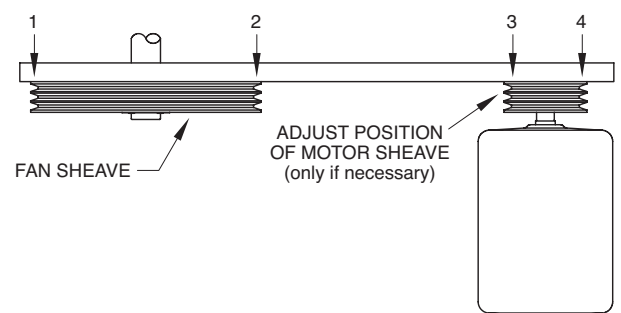

Figure 18 - Sheave Alignment Check
9. As a final check, lay a straight edge from sheave to sheave as shown below in Figure 18. There should be four-point contact. Adjust the position of the motor sheave as necessary until four-point contact is achieved.